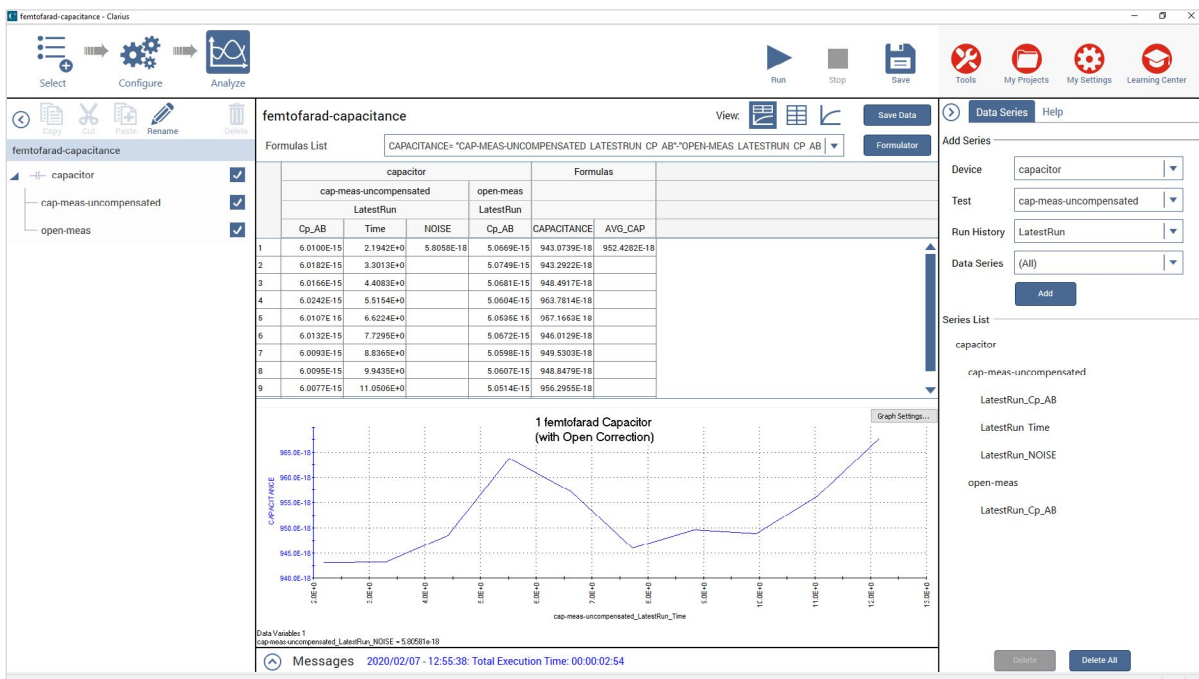

Figure 6. Screen capture of the Analyze view Sheet and Graph showing 1 fF measurement.
3. **Analyze the Results.** Select the *femtofarad-capacitance* project in the project tree and select Analyze view. A screen capture displaying the compensated 1 fF measurements is shown in **Figure 6**.